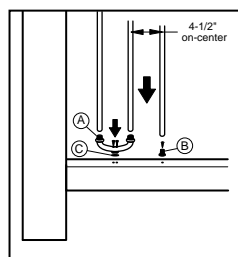

Figure 3
Step 4: Attach the Duo Connectors (A) and standard baluster connectors (B) to the bottom rail using the screws provided. Note: When using pressure-treated wood, install the included plastic washer (C) between the Duo Connector and rail. Slide balusters over each connector. (Figure 3)